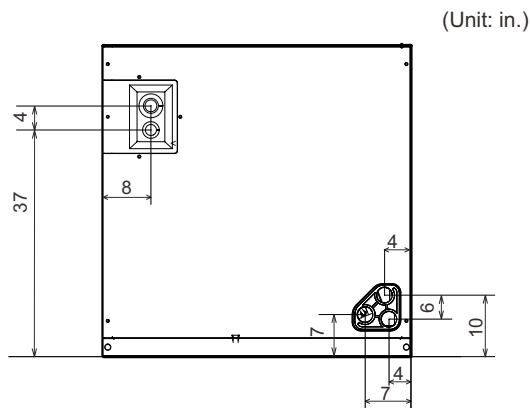

Fig. 4.1. Connection Positions of the Piping
- (1) The connection positions of the pipe are shown in Fig. 4.1.